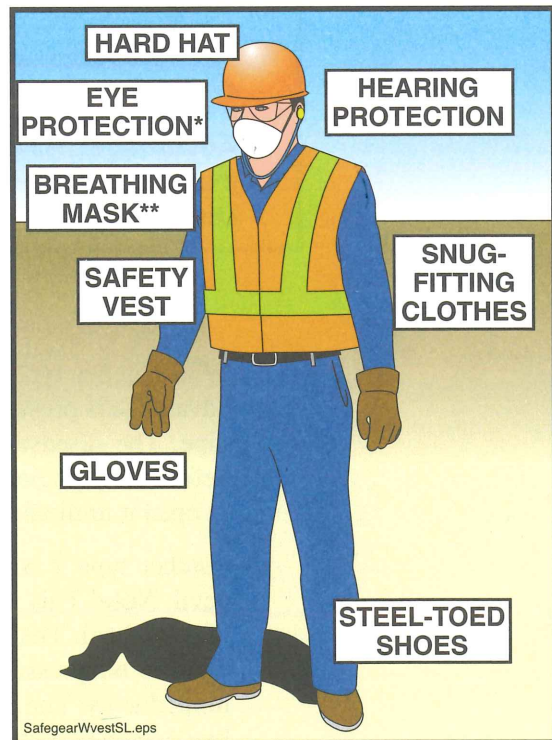

Figure 14
6.3 **WARNING** When operating the machine, wear **Personal Protective Equipment (P.P.E., or just PPE)**. (Including *full face shield and/or ** breathing mask, when necessary, as shown in Figure 14.)